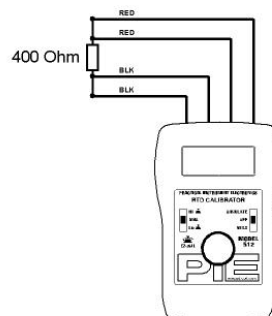

FIGURE 2 (Read OHM)
2. Connect a precision 400 Ω standard resistor to the UUT (See Figure 2).